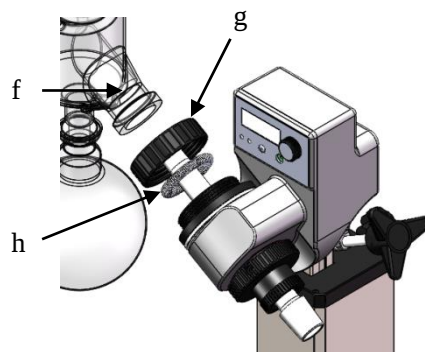
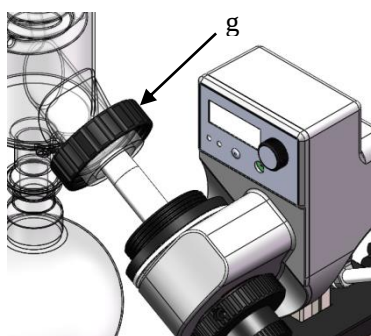

Fig. 6
Fig. 7
- Mount the condenser (f) (Fig. 6 and Fig. 7)